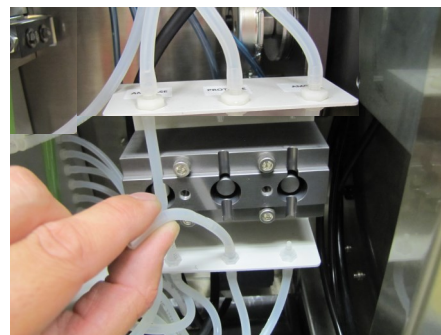

Figure 16
13. Remove and dispose of the three tube pieces within the Enzyme Pinch Valve, as shown in Figure 16.